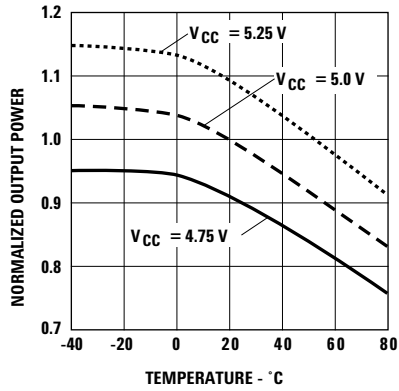

Figure 4. Typical normalized optical power vs. temperature (in recommended drive circuit)
- Minimum and maximum values for P_T over temperature are based on a fixed drive current. The recommended drive circuit has temperature compensation which reduces the variation in P_T over temperature, refer to Figures 4 and 6.